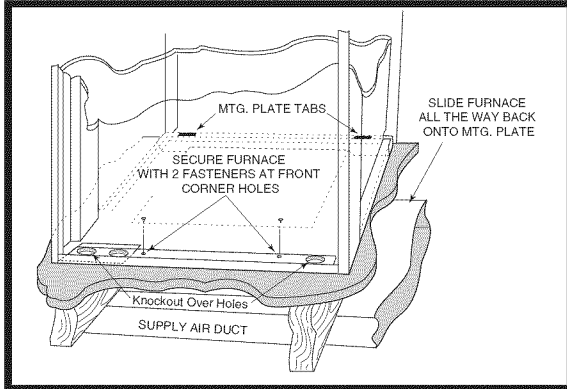

Figure 14. "A" & "B" Cabinet Furnaces
Sides and back of the furnace may be enclosed by wall framing such as in a closet or alcove. The dimensions of the room or alcove must be able to accommodate the overall size of the furnace and the installation clearances outlined on page 2 and Figures 1 - 4 (page 6). The furnace shall be appropriately connected to the supply and return air distribution system as shown in Figures 14 & 15 (page 11).
4. Secure front with one (1) fastener at each corner (Figures 14 or 15).